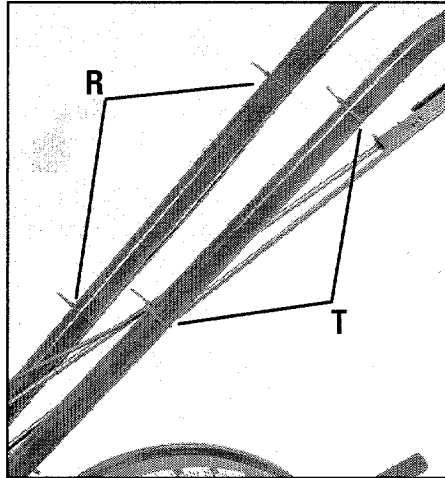

Figure 2-14: Attach throttle cable with plastic ties (R). Attach wheel gear cable with plastic ties (T).
6. Secure the throttle cable to the right-side handlebar with two plastic ties (R, Figure 2-14) located about two feet apart. The serrated side of the tie should be on the inside of the loop. Snip off any excess tie length with scissors.
5. Secure the cable to the left-side handlebar with two plastic ties (T, Figure 2-14) located about two feet apart. Snip off any excess tie length with scissors.